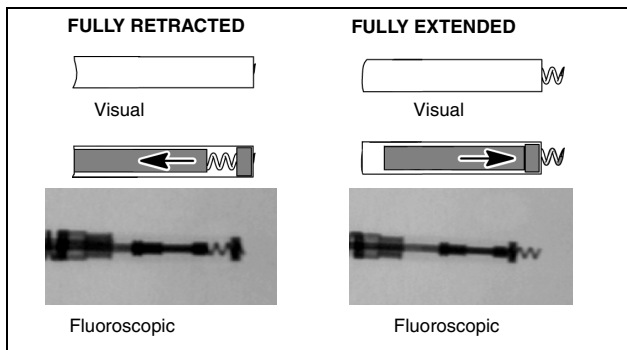

Figure 13. Possible views of the helix electrode.
2. Apply forward pressure to the lead body to position the distal electrode against the desired fixation site and rotate the fixation tool *clockwise* to affix the distal electrode helix into the heart wall. View the radiopaque markers under fluoroscopy to identify when the fixation helix is fully extended. Full extension is achieved when the radiopaque markers are joined and the fixation helix is extended outside the distal fluoroscopy markers (Figure 13). Refer to the Specifications section on Page 31 for the expected number of turns to extend or retract the helix.